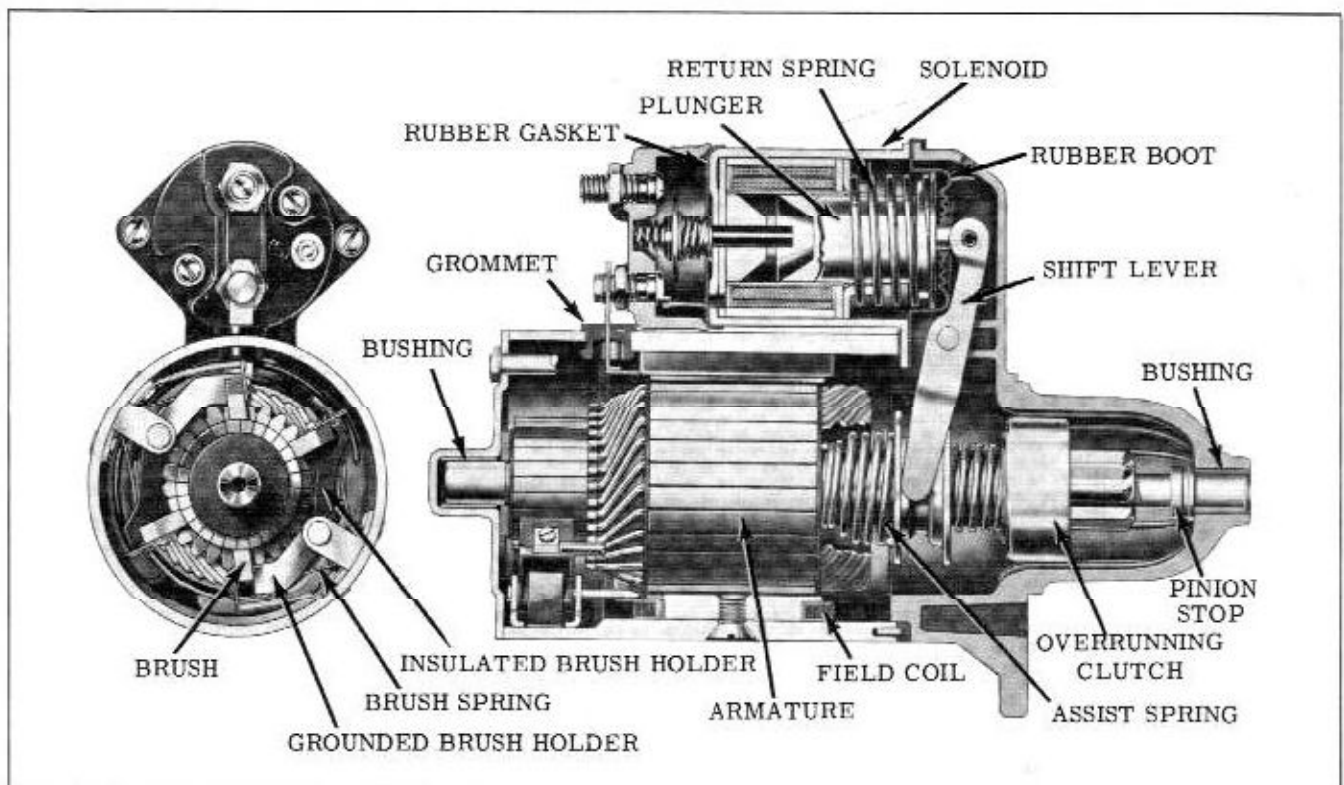

Fig. 13-38 Starting Motor Cross Section
1. Disconnect the field coil connector from the motor solenoid terminal. (Fig. 13-38)